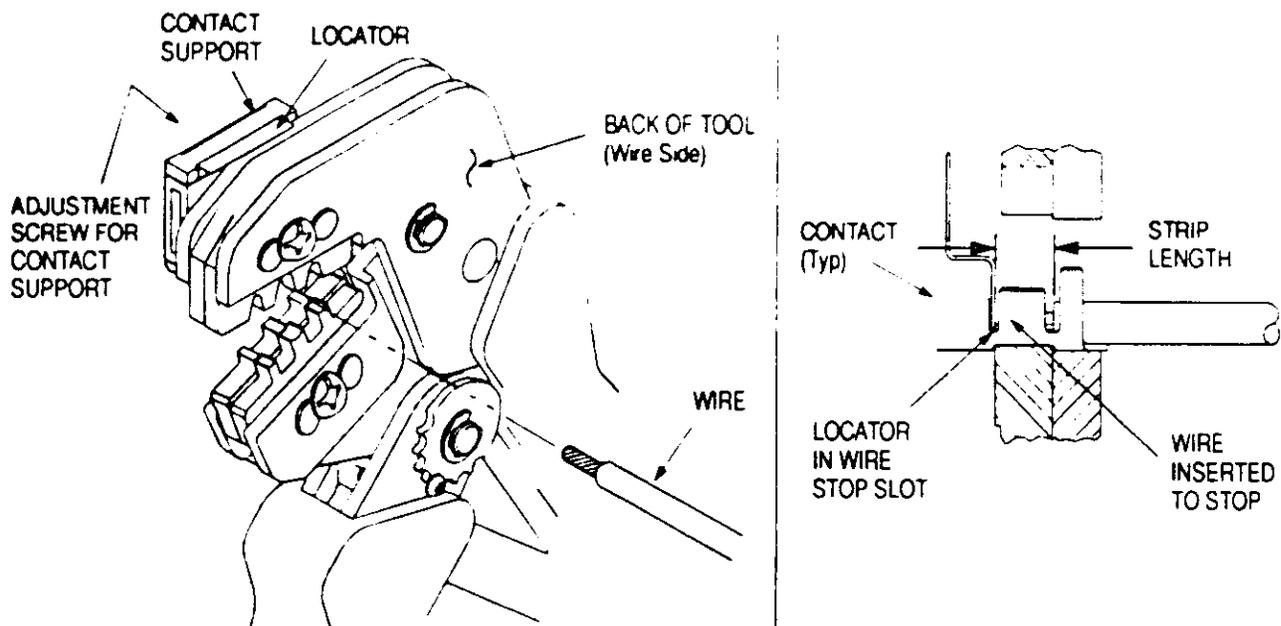

Figure 3
4. CONTACT SUPPORT ADJUSTMENT (Figure 3)
Refer to the table in Figure 1 and select wire of the specified size and insulation diameter. Strip the wire to the length indicated in Figure 1, taking care not to nick or cut wire strands. Select an applicable contact and identify the appropriate crimp section according to the wire size markings on the tool. Refer to Figure 3 and proceed as follows:
3. Position the contact so that the mating end of the contact is on the locator side of the tool, and so that the open "U" of the wire and insulation barrels must face the top of the tool. Place the contact up into the nest so that the movable locator drops into the slot in the contact. Refer to Figure 3. Butt the front end of the wire barrel against the movable locator.
5. Insert stripped wire into contact insulation and wire barrels until it is butted against the wire stop, as shown in Figure 3.
NOTE *The crimped contact may stick in the crimping area, but the contact can be easily removed by pushing downward on the top of the locator (see Figure 3).*